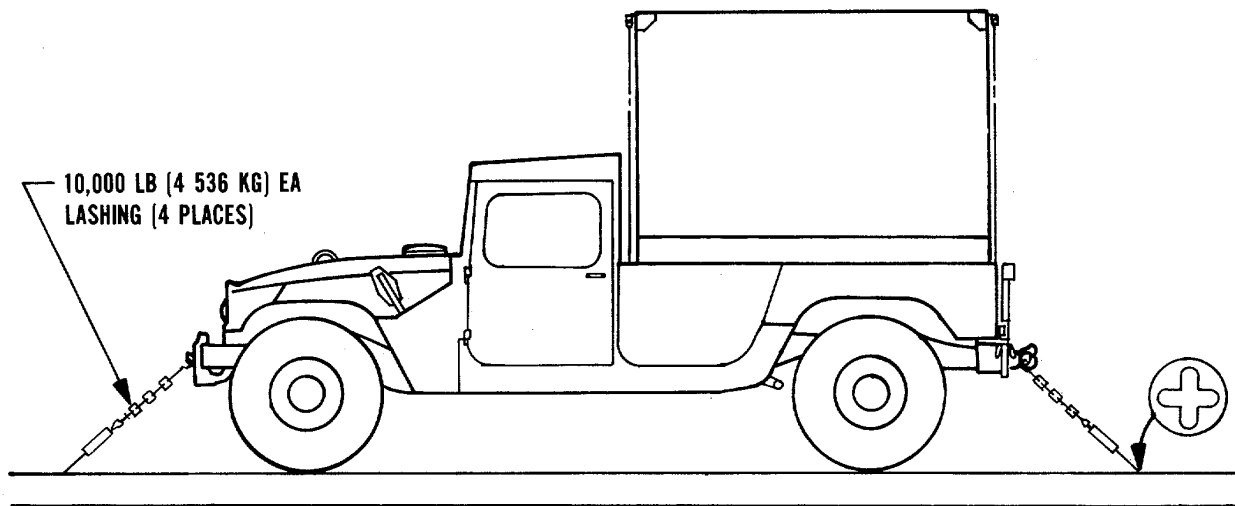

Figure 6-3. Typical tiedown of HMMWV on RORO ship.
- b. *Securing.* RORO, seatrain, landing, and attack cargo ships are equipped with patented lashing gear and pre-positioned fittings in the deck. The use of such equipment and blocking and bracing is not required. Figure 6-3 shows typical tiedown of HMMWVs on a RORO vessel using 10,000-pound-capacity lashings.